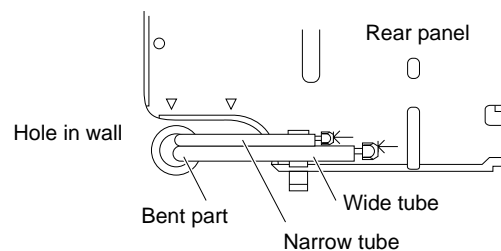

Fig. 27a
- (1) Lead the tubing and drain hose through the wall, allowing sufficient length for connection. Then bend the tubing using a tube bender to make the attachment. (Fig. 27a)
- (2) Switch the drain hose and drain cap.